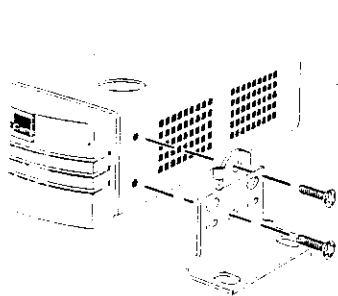

Figure 1 Wall Mounting One Unit
- 2 Locate a mounting bracket over the mounting holes on one side of the unit, as shown in Figure 1 below.